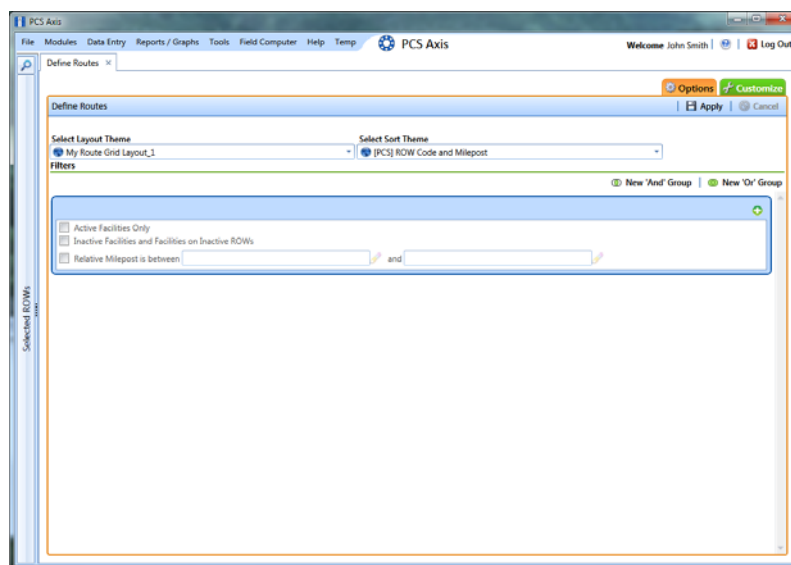

Figure 7-44. Options
- a Click the **Options** tab to open the options page (Figure 7-44, page 330).